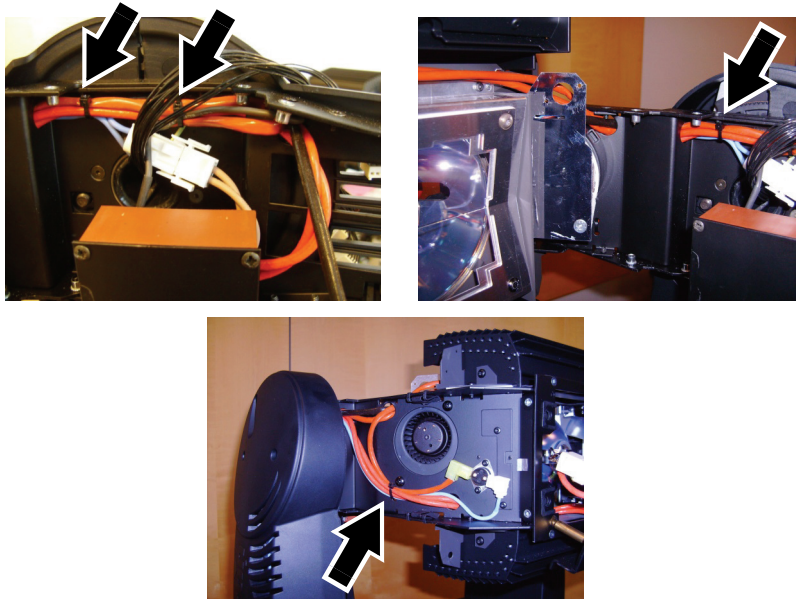

Figure 62
67. See Figure 62. Secure the lamp leads with cable ties.